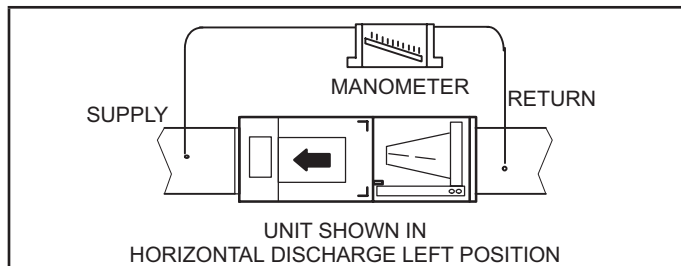

FIGURE 3. Static Pressure Test
- 1 - Measure tap locations as shown in figure 3.